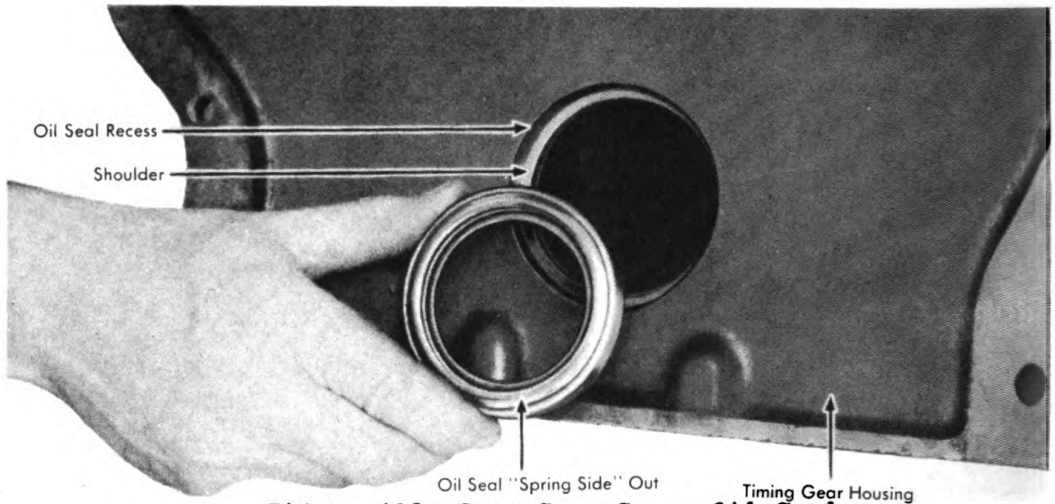

Figure 193. Gear Case Cover Oil Seal.
D. Install the gasket and gear case cover after installing a new oil seal (see Figure 193) in the cover as shown in Figure 194. Install the fuel injection pump capscrews and tighten the injection pump stud nuts and the gear case cover capscrews and dowel bolt nuts.